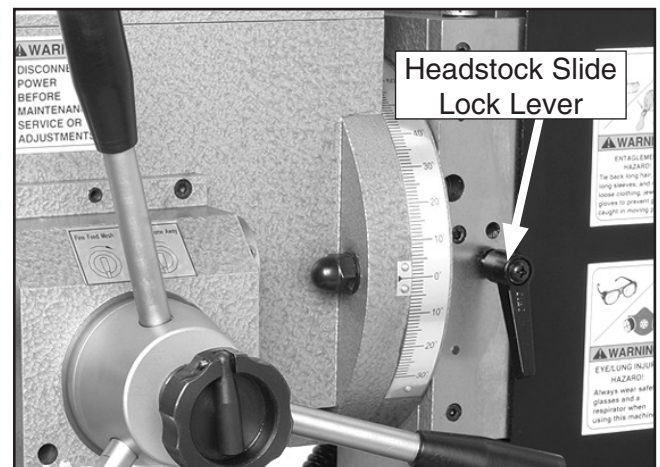

Figure 14. Headstock slide controls.
1. Unlock the headstock slide lock lever shown in **Figure 14**.